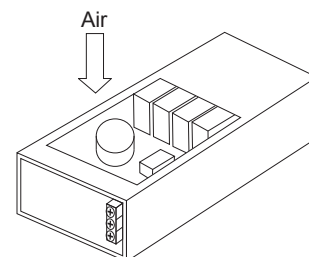

Fig. 5.3 Dwg. of -N specification
- In the event that cooling can be provided by the user's fan, the built-in fan may be eliminated (Refer to Fig.5.3).